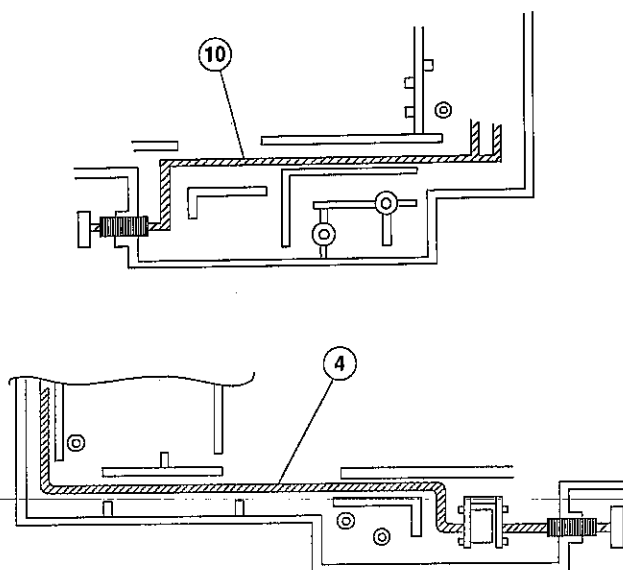

Fig. 11
- When connecting inverter cable ⑩ and LCD cable ④, adjust so that the tubes of the cables are at the center as shown in Fig. 11.